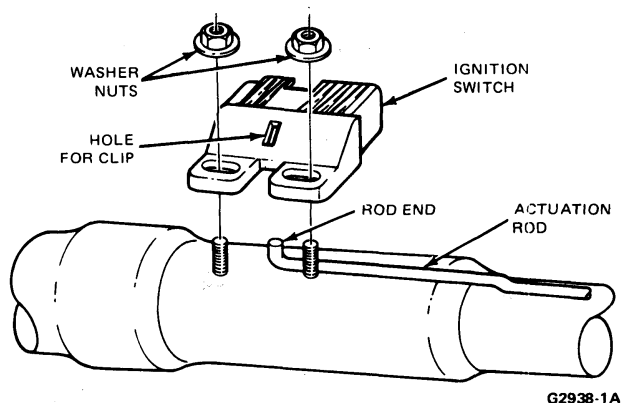

FIG. 3 Ignition Switch Adjustment
3. Clip the ignition switch through the opening in the side of the switch casting (Fig. 3).